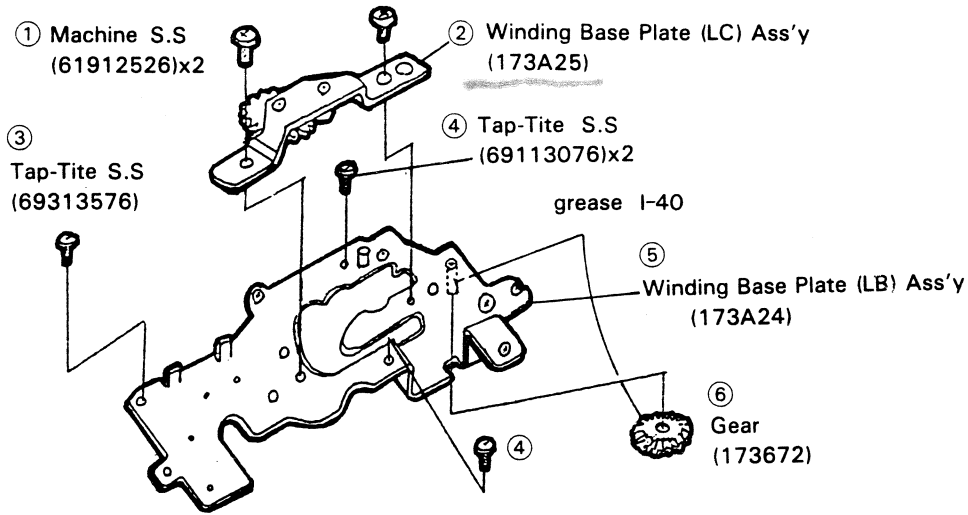

Fig. 39
(1) Remove the parts shown in Fig. 39 in the numerical order